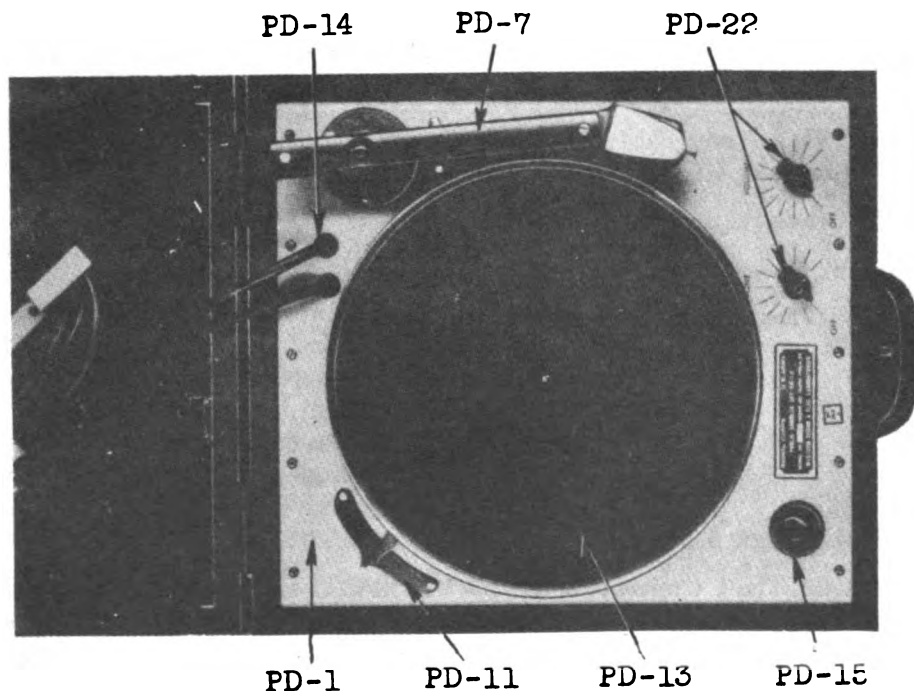

Figure 7. Public Address Set PA-1-F, record player, top view.
b. **Control Board.** The control board contains a volume control, a tone control, and a needle cup. The motor OFF switch is located on the tone control. The tone control with its equalizing circuit produces high fidelity when the knob is turned to the left and reduces the high frequencies when the knob is turned to the right (fig. 7).